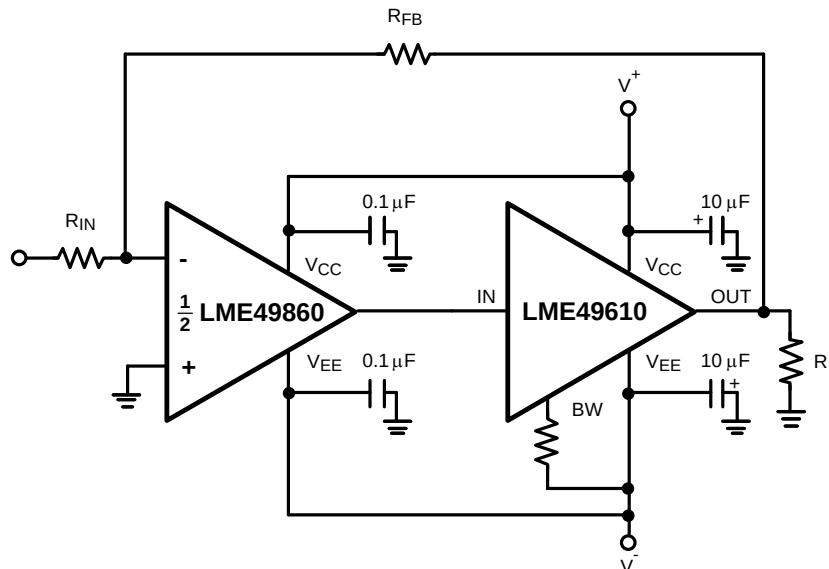

Figure 27. High Performance, High Fidelity LME49610 Audio Buffer Application
- (1) “*Absolute Maximum Ratings*” indicate limits beyond which damage to the device may occur, including inoperability and degradation of device reliability and/or performance. Functional operation of the device and/or non-degradation at the Absolute Maximum Ratings or other conditions beyond those indicated in the *Recommended Operating Conditions* is not implied. The *Recommended Operating Conditions* indicate conditions at which the device is functional and the device should not be operated beyond such conditions. All voltages are measured with respect to the ground pin, unless otherwise specified
- (2) The *Electrical Characteristics* tables list specifications under the listed *Recommended Operating Conditions* except as otherwise modified or specified by the *Electrical Characteristics Conditions* and/or Notes. Typical specifications are estimations only and are not ensured.
- (3) If Military/Aerospace specified devices are required, please contact the Texas Instruments Sales Office/ Distributors for availability and specifications.
- (4) Human body model, applicable std. JESD22-A114C.
- (5) Machine model, applicable std. JESD22-A115-A.
- (6) The maximum power dissipation must be derated at elevated temperatures and is dictated by T_{JMAX} , θ_{JA} , and the ambient temperature, T_A . The maximum allowable power dissipation is $P_{DMAX} = (T_{JMAX} - T_A) / \theta_{JA}$ or the number given in *Absolute Maximum Ratings*, whichever is lower. For the LME49610, typical application shown in Figure 27 with $|V_{EE}| = V_{CC} = 15V$, $R_L = 32\Omega$, the total power dissipation is 1.9W. $\theta_{JA} = 20^\circ\text{C/W}$ for the DDPK/TO-263 package mounted to 16in^2 (103.2 cm^2) 1oz. copper surface heat sink area.